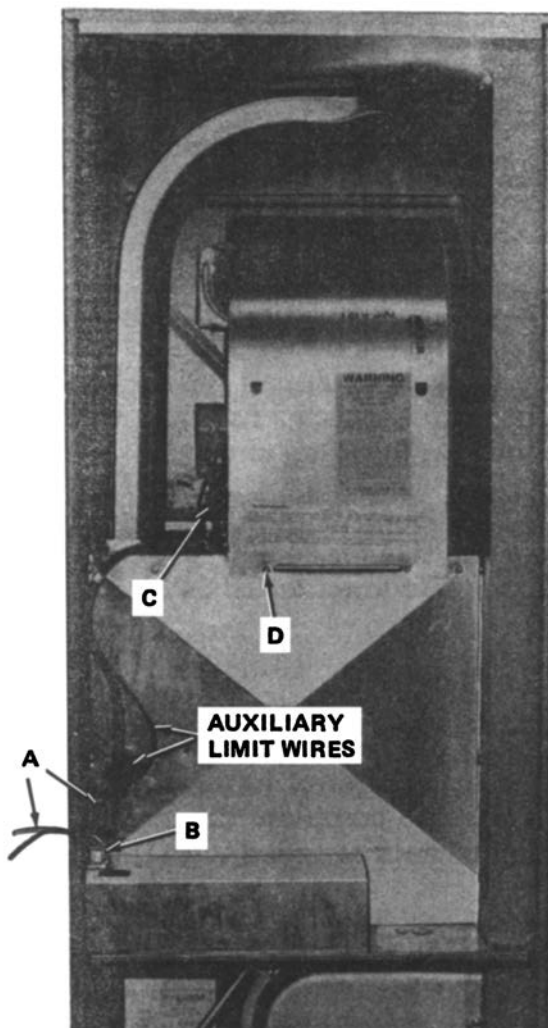

FIGURE 2. COLEMAN FURNACE
3. Refer to FIGURE 2, and do the following:
- a. Disconnect the thermostat leads and pull the two low-voltage wires (A) up through the partition panel.
- b. Squeeze clasp tabs of the motor plug (B) and pull the plug straight out to disconnect from the control panel receptacle.
- c. Disconnect the two auxiliary limit wires from the auxiliary limit switch (C) on left side of the blower housing.
- d. Remove three bottom mounting screws from front blower support (D), and remove side retainer screws from the left and right blower railing. Retain front support screws for later use in these installation instructions.